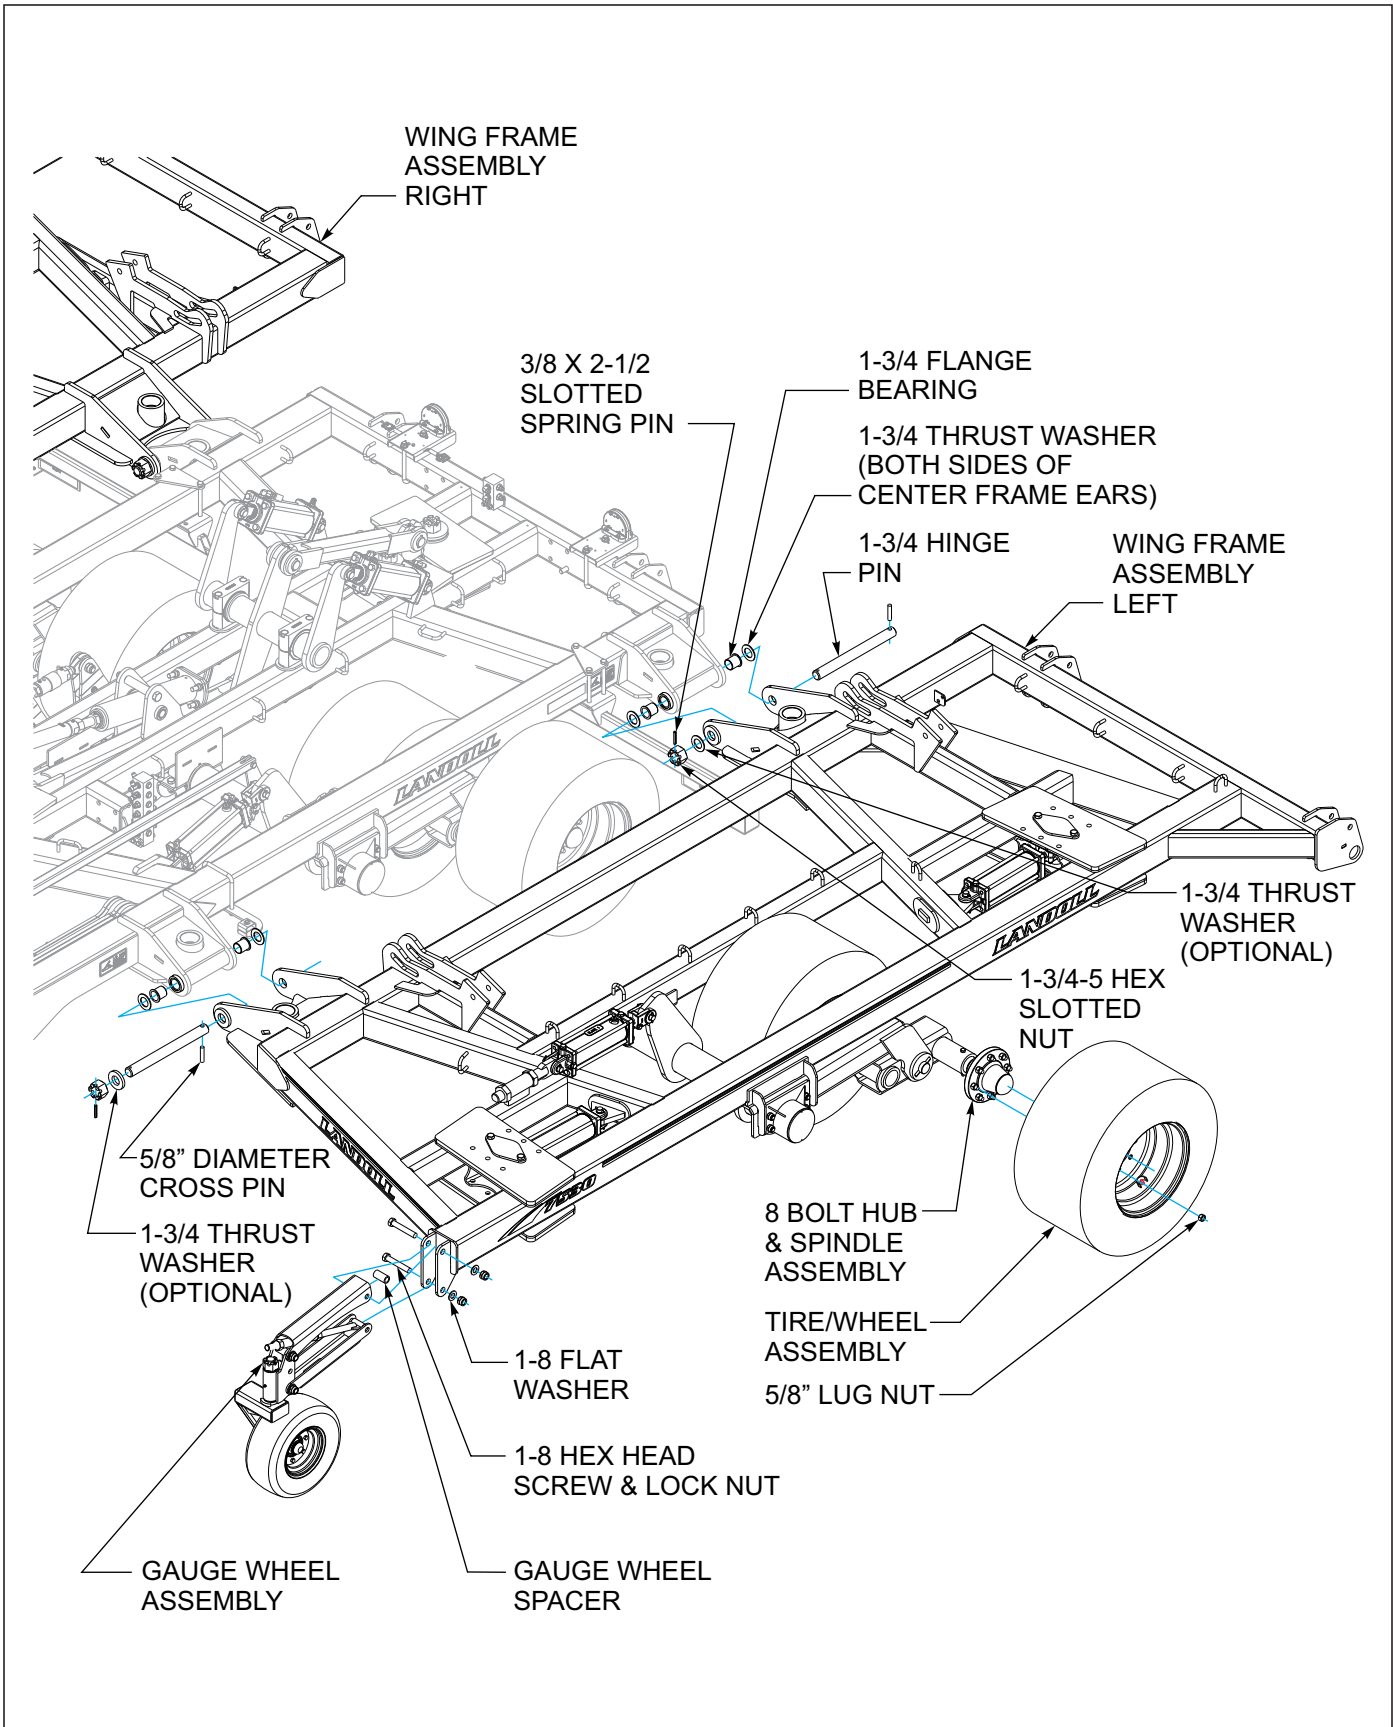

Figure 3-5: Wing Frame Assembly Installation 7530-23' - 35'
1. Place the left and right wing frame assemblies on stands so the wings are level with the center frame **(See Figure 3-5.)**